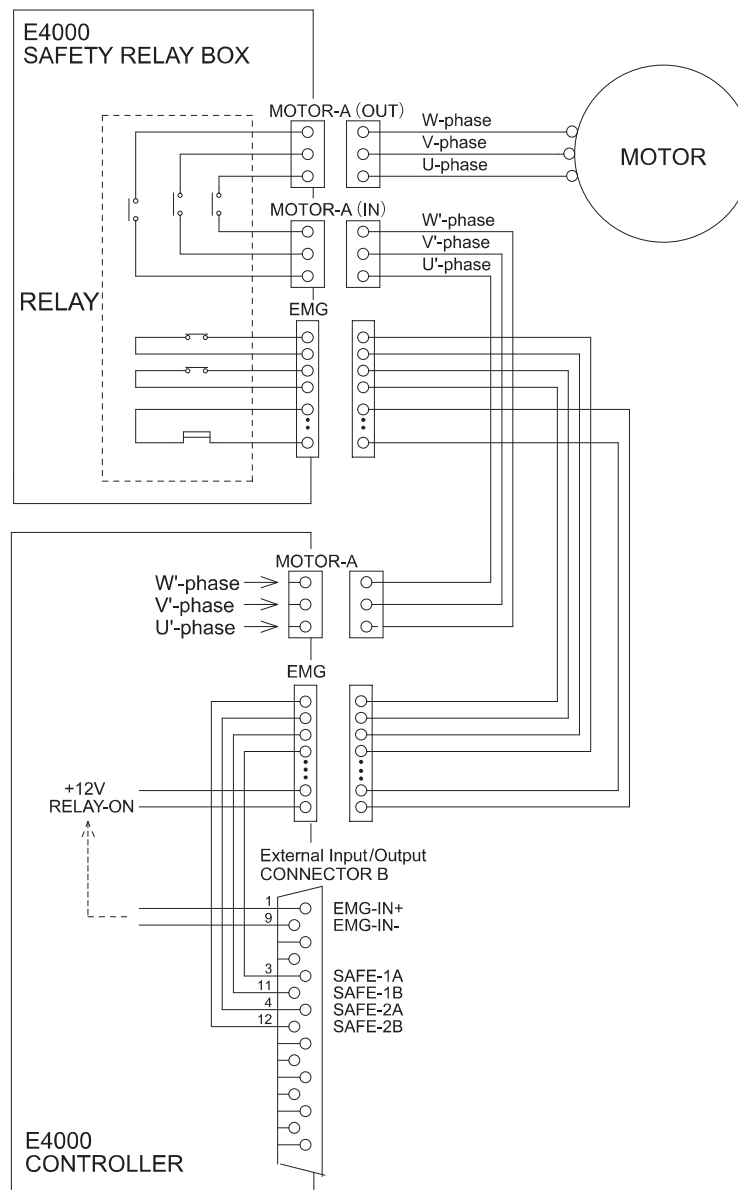

Fig. 9
Refer to "16 - 2 - (1) Details of External Input / Output Connector B Signals " section of the **CONTROLLER** Operation Manual and Fig. 9.